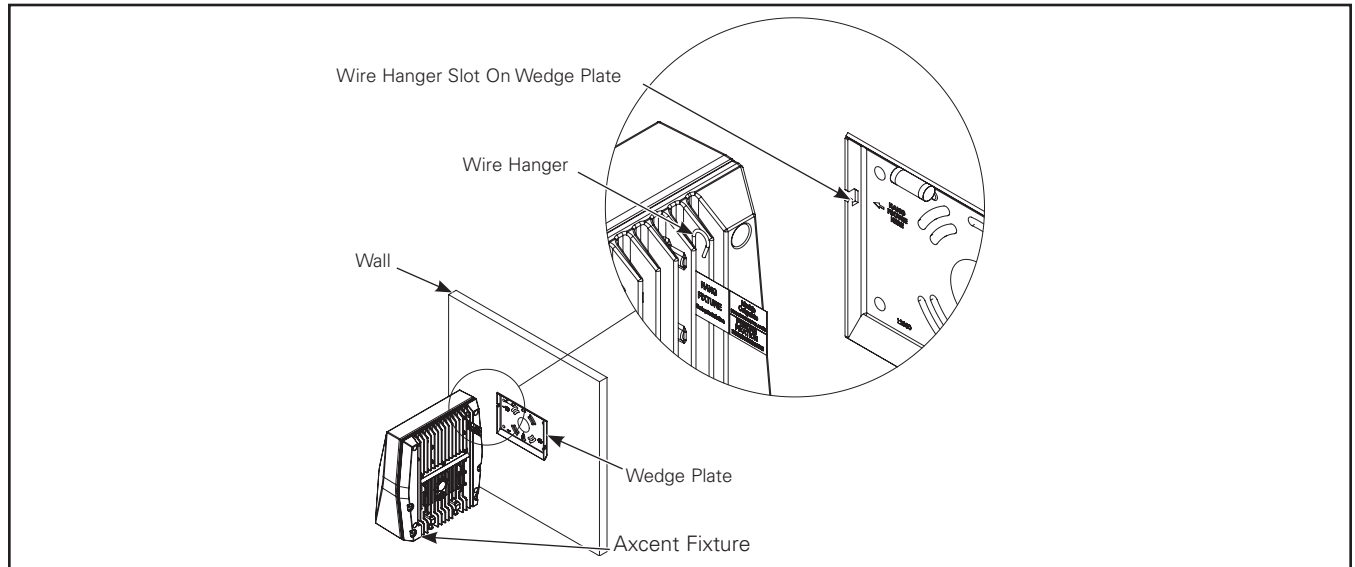

Figure 4.
3. Hang the fixture from the wedge plate using the wire hanger located on the back of the fixture (Figure 4). Wire hanger can be located by looking for the red flag label.